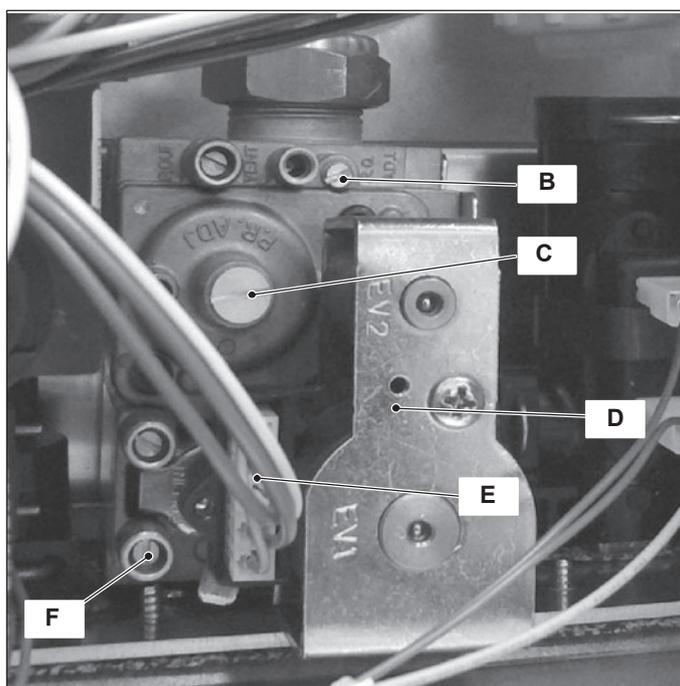

Figure 11.2
### 11.2 Description of the parts - (Figure 11.2)
- 3 Loosen the internal screw on the Inlet Pressure Test Point F (Figure 11.2) of the Gas valve and connect a pressure gauge using a suitable hose.
- 10 Disconnect the pressure gauge and close the Inlet Pressure Test Point F (Figure 11.2).
To adjust the CO2 % value remove the brass plug by unscrewing it and rotate the Allen key screw ø 4 mm (C - Figure 11.2) (by rotating it clockwise the CO2 % increases).
To adjust the CO2 % value rotate screw (B - Figure 11.2) (by rotating it clockwise the CO2 % decreases).
32 After adjustment fit the protective brass plug (C - Figure 11.2).
2 Disconnect the electrical connector E (Figure 11.2).